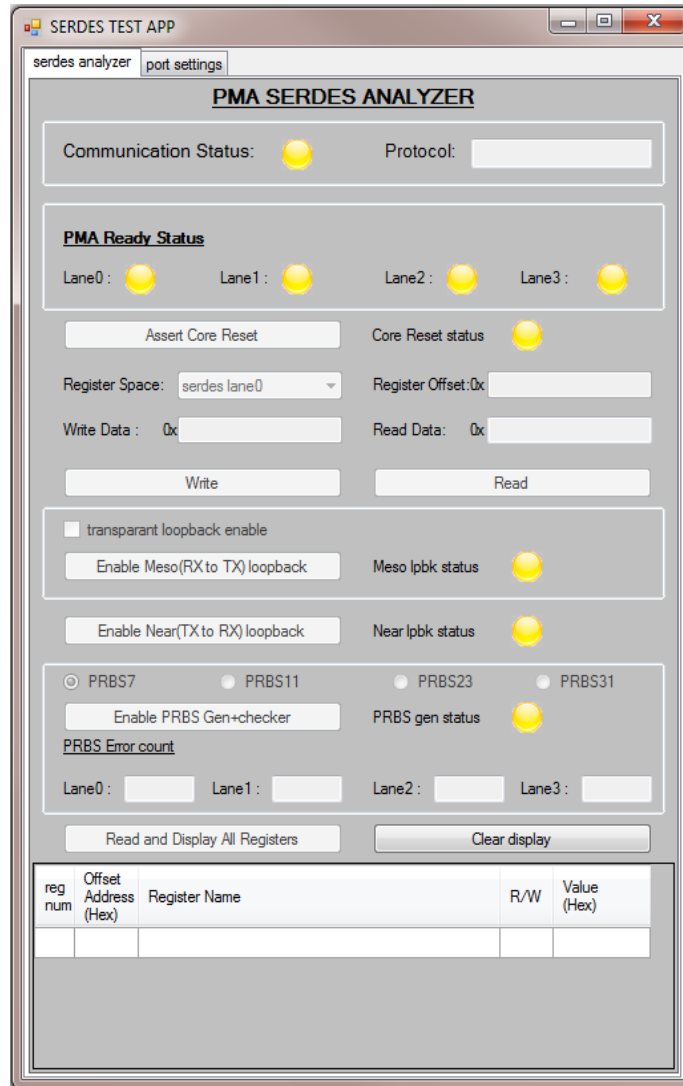

Figure 20 SERDES TEST APP Window
4. Double-click the `PMA_SERDES_CONFIGURATOR.exe` file to open the PMA SERDES analyzer to test the Evaluation Kit board. Figure 20 shows the SERDES TEST APP window.